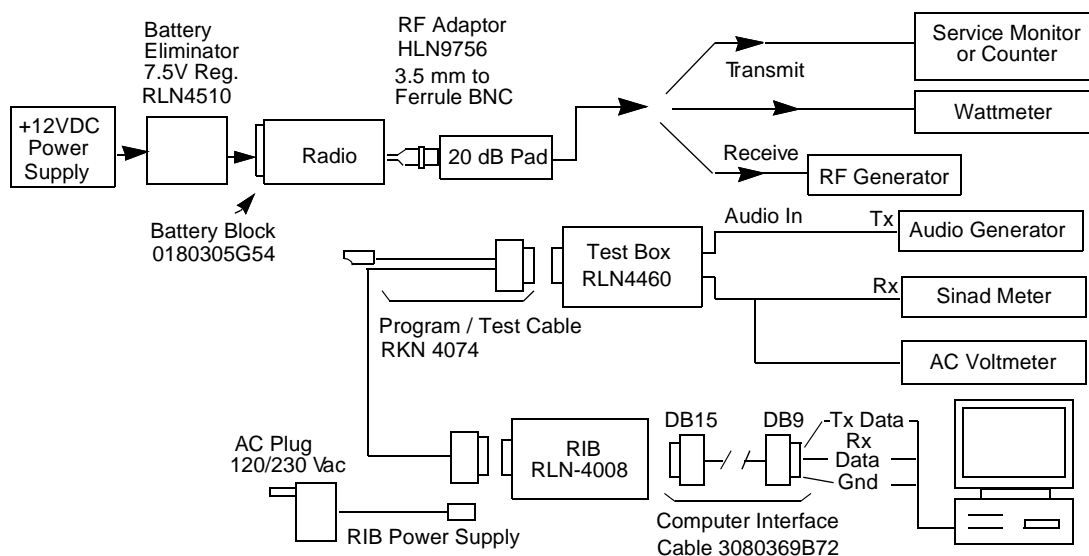

Figure 5-1 Radio Tuning Test Equipment Setup
A personal computer (PC) using Windows 95/98 and a global tuner program are required to tune the radio. To perform the tuning procedures, the radio must be connected to the PC, radio interface box (RIB), and test equipment shown in Figure 5-1.
The supply voltage is connected to the radio using a Motorola battery eliminator, P/N 0180305G54. The initial test equipment (Figure 5-1) control settings are listed in Table 5-2.